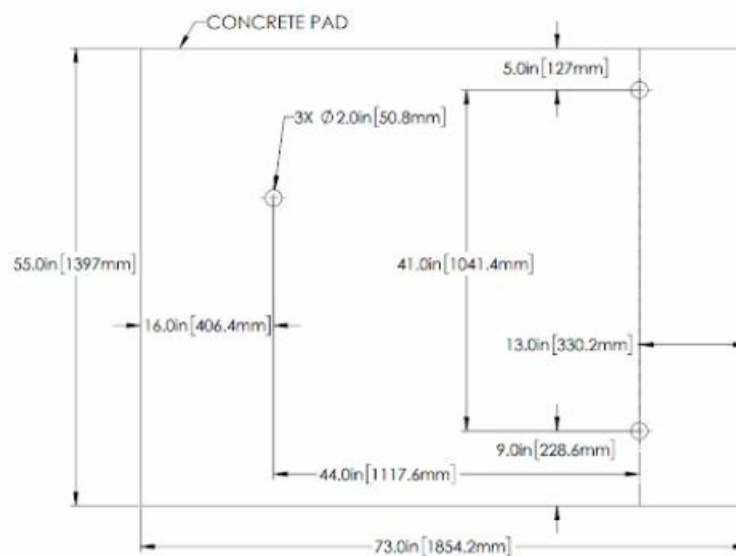

Figure 2: Hole Locations for a Standard Lane 1 System
- **Figure 2:** Hole Locations for a Standard Lane 1 System